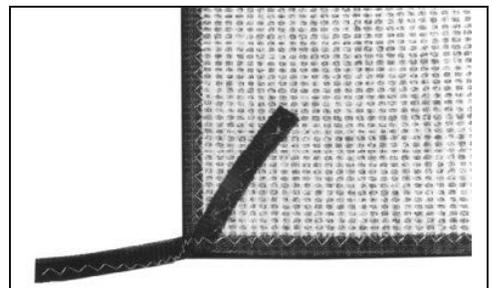

FIG. 20
3. Place carpet in folder and sew down the next side (Figure 20).